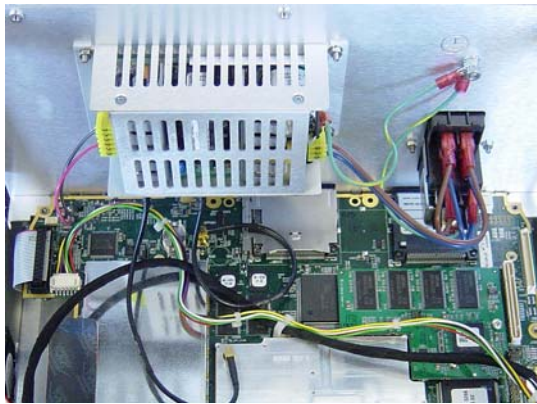

Figure 5-15. Power Supply Mounted on Rear Panel
2. With the chassis upright on a static protected work surface, disconnect the power outlet plug from the left side of the power supply (the plug with 2 wires soldered to the motherboard), and disconnect the power inlet plug and the grounding wire from the right side of the power supply (the wires from the power input module). Disconnect the grounding wire from the chassis ground screw. Refer to Figure 5-15.